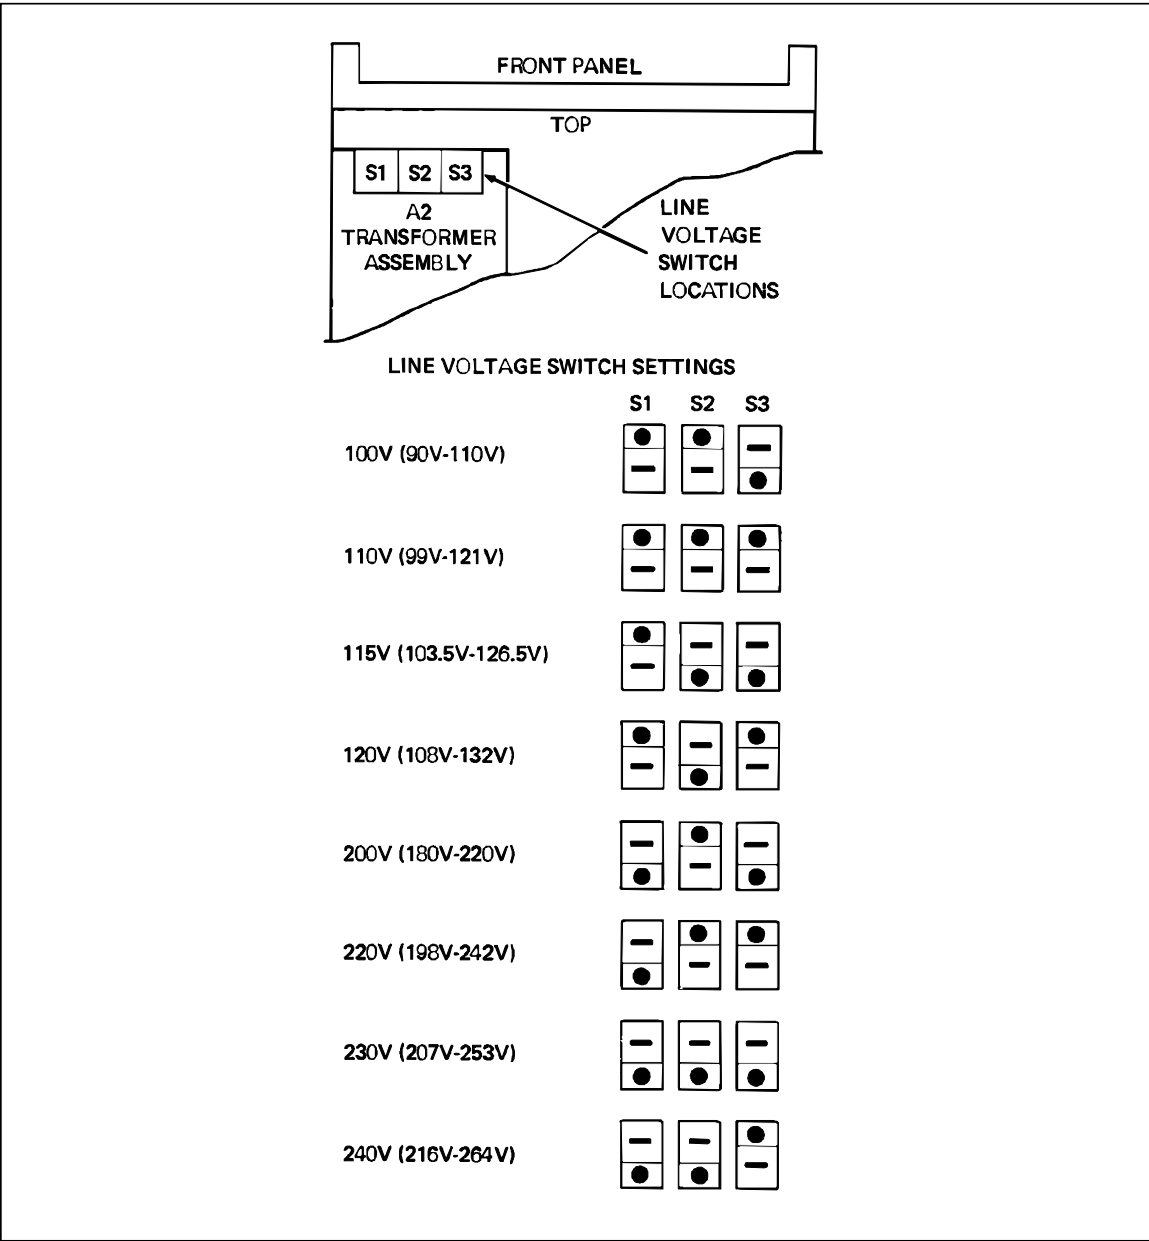

Figure 4-2. Line Voltage Selection
The 5220A is set at the factory to operate at a line voltage of either 115 or 230 V ac +10%, 40 to 60 Hz. The selected voltage is identified on a rear panel decal. If your local line voltage is not within this preset range, a suitable range may be selected by setting a series of three switches (S1, S2, S3) on the A1 Transformer Assembly. Figure 4-2 shows the switch locations as well as the switch settings for eight different line voltages. Use the following procedure to set the line voltage switches:
3. With reference to Figure 4-2, locate and set switches S1, S2, and S3 to the positions indicated for the desired line voltage.